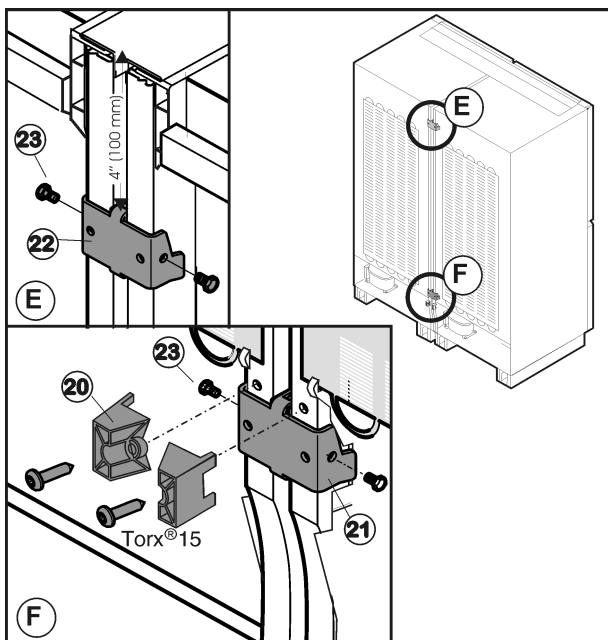

Fig. 47
- Remove the spacers Fig. 47 (20) from the lower reverse side of the appliances.
- Position the upper connecting piece and Fig. 47 (23)screw Fig. 47 (21) on from the side.
- Position upper connecting piece Fig. 47 (22) and screw Fig. 47 (23) on from the side.
- Tighten the screws Fig. 47 (23).